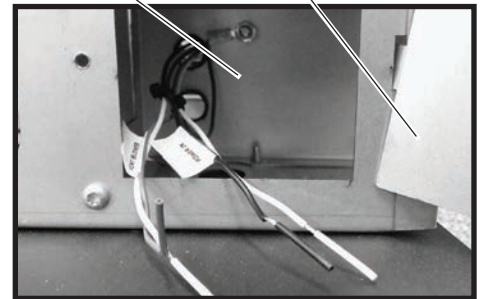
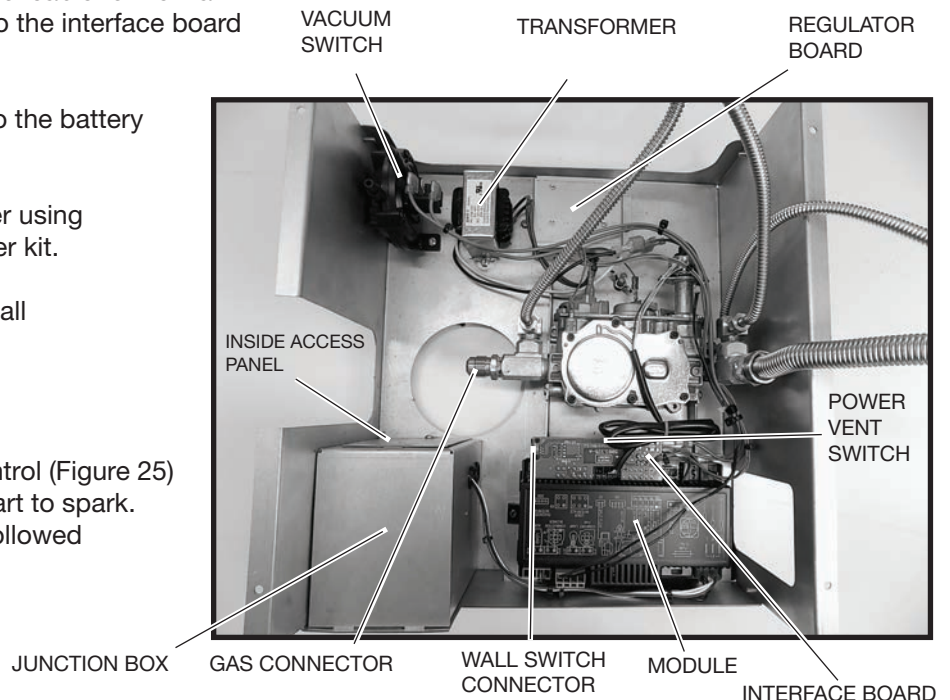
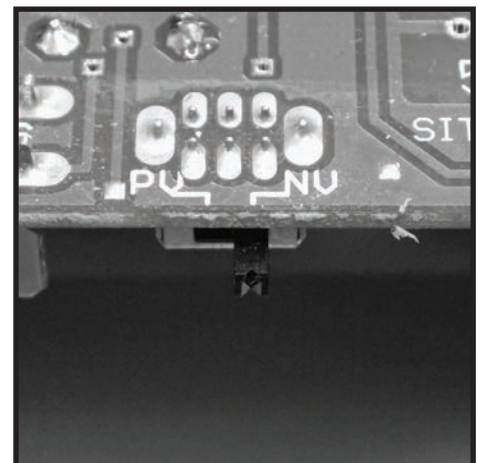

Figure 23: Junction box wiring.
Figure 24: Valve assembly components.
Figure 28: Vent mode selection switch.
4. Connect 110 V. AC electrical supply to the wires installed inside the junction box (Figure 23). The fireplace is rated at 110 volts, 60Hz, 0.25A. The optional power vent kit is rated at 115 volts, 60Hz, 1.8A.
The electrical wires can be accessed from both inside and outside the junction box by removing one of the two small access panels (Figure 23) or (Figure 24).
7. Attach one end of the wall switch control cable to the wall control (Figure 26), and the other end to the interface board (Figure 24).
The NV / PV (Natural Vent / Power Vent) switch (Figure 28) on the interface board (Figure 24) is set according to which type of evacuating vent system is present. If the fireplace is vented without the assistance of a power vent, the switch should be set to "NV". If using a power vent, "PV" should be selected. Follow the instructions provided with the power vent kit for proper installation.
1. Connect the gas supply to the valve (Figure 24).